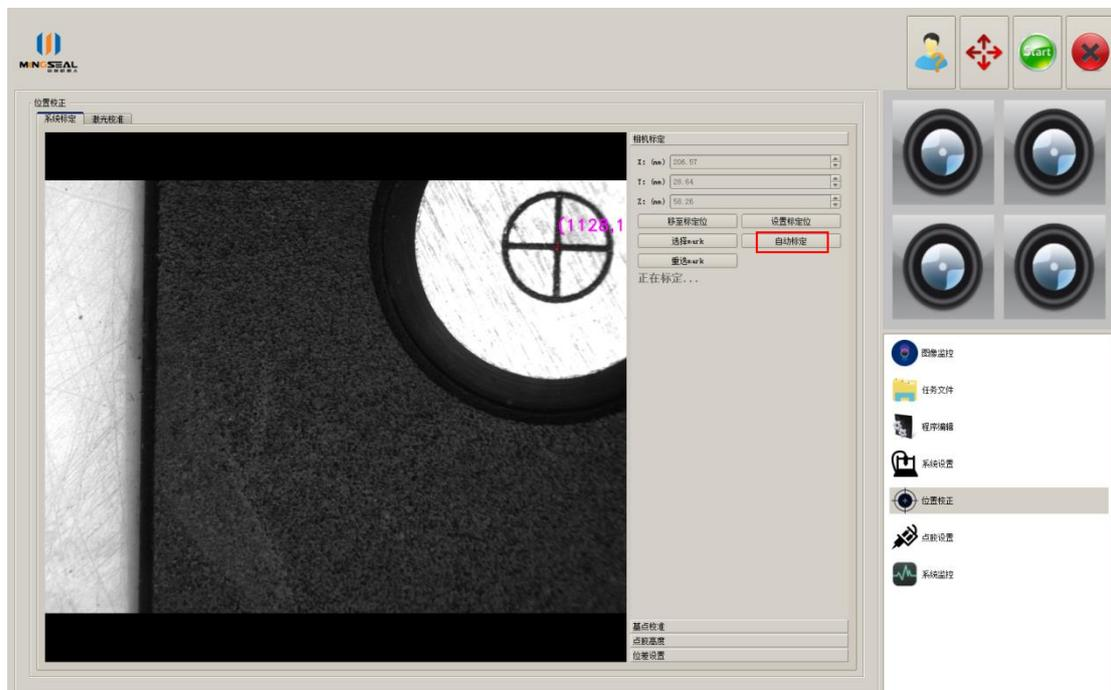

Figure 19 Automatic calibration process
3) click the 'automatic calibration' button, then the system starts automatic calibration; the calibration process interface as shown in Figure 19;